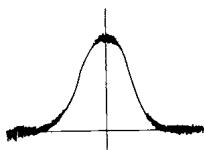

Fig. 9
1. Short-circuit the OSC stage by earthing the live side of the variable capacitor in that stage. Adjust the core of T101 so that the gain will be max. In this case, reduce the level of the input signal of signal generator so that the waveform will be one shown in Fig. 9.